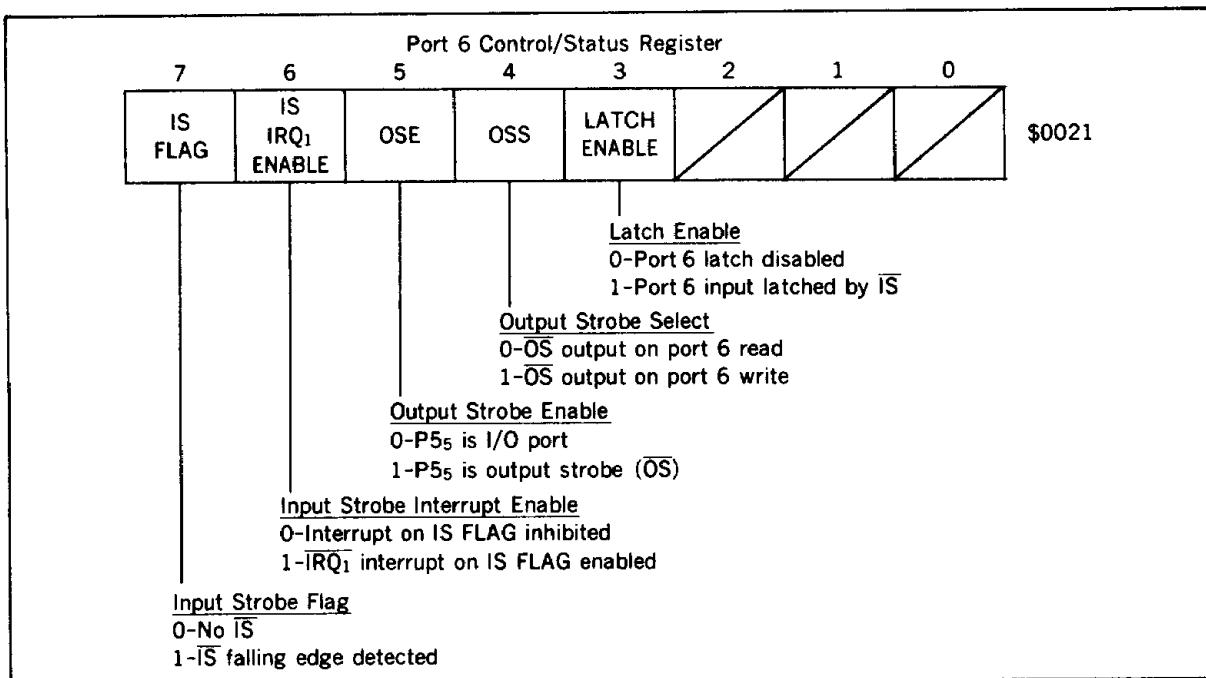

Figure 22. Port 6 Control/Status Register
**Port 6 Control/Status Register :** The port 6 control/status register (P6CSR : \$0021) controls and holds the status of the port 6 handshake interface (figure 22). The handshake interface functions as follows.